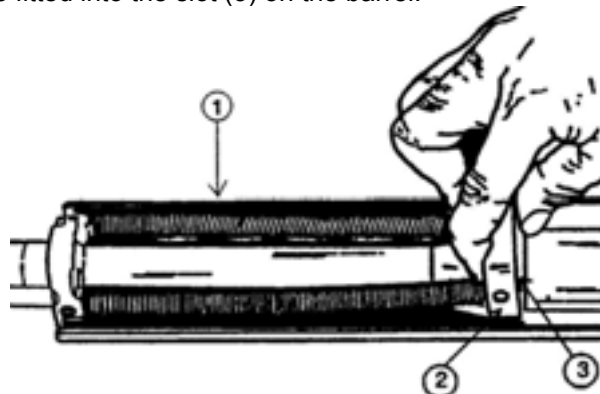

Figure 2-30. Inserting Barrel Key
- (3) Hold the upper receiver (1), Figure 2-30, firmly with one hand. With the other hand pull the barrel key (2) toward the rear until it can be fitted into the slot (3) on the barrel.